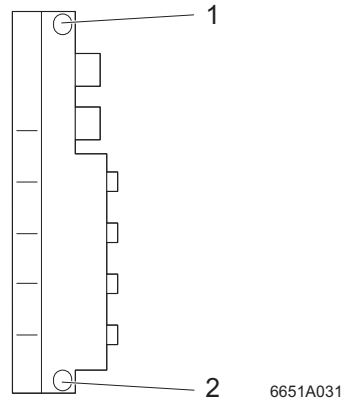

Figure 4-6 Side mounting (FLS)
- Screw the device onto the mounting surface using two mounting screws in the side mounting holes (1 and 2 in Figure 4-6).